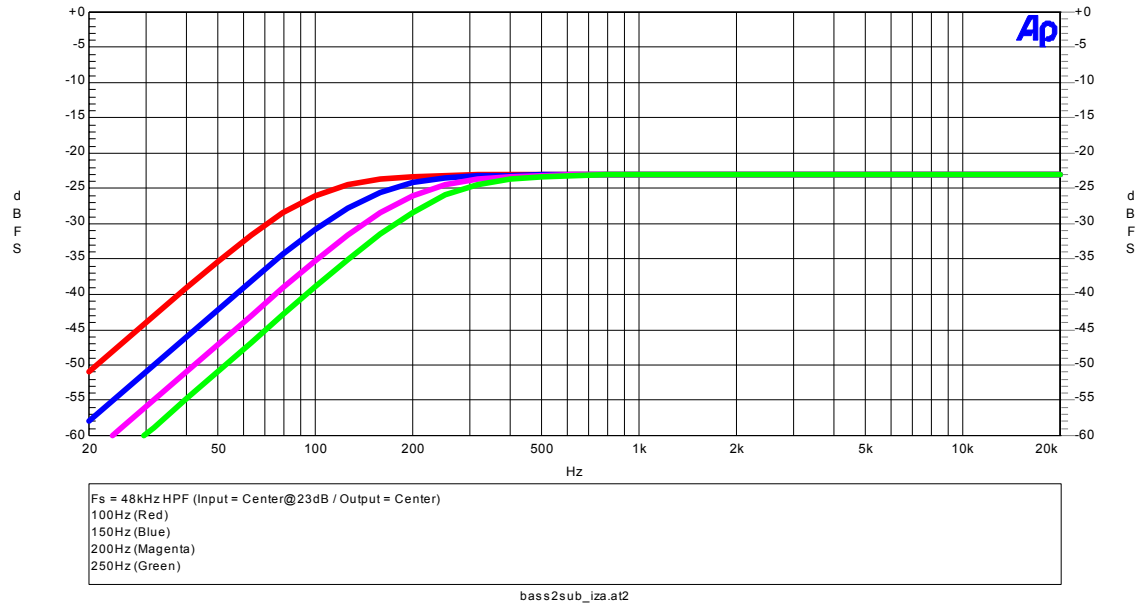

Fig. 6 NJU26106 High Pass Filter
2. The 4 types of crossover frequencies for speaker are selectable. ( Fig. 6, 7 )